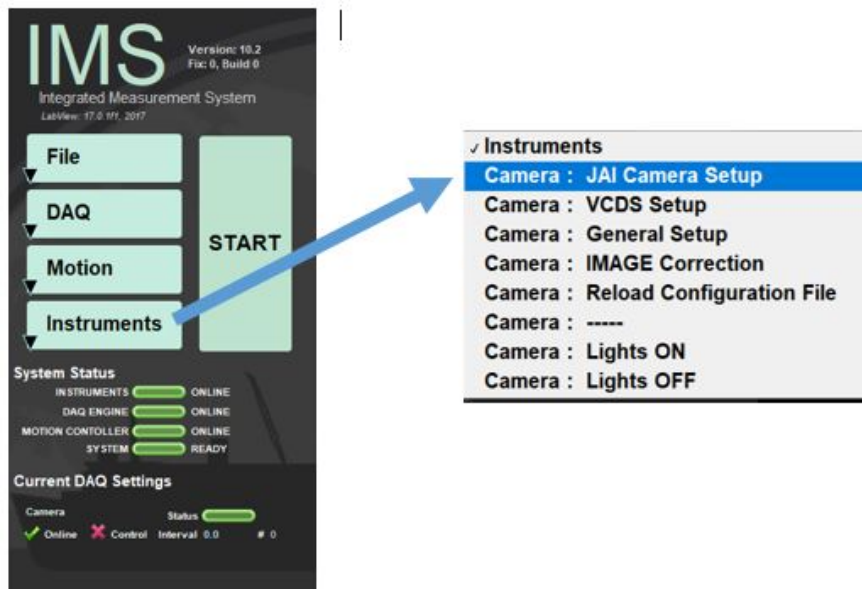

Figure 33. Selecting JAI Camera Setup
3. In the **IMS control panel** click **Instruments > JAI Camera Settings** (Figure 33). The lights turn on automatically when the JAI Camera Setup window opens.